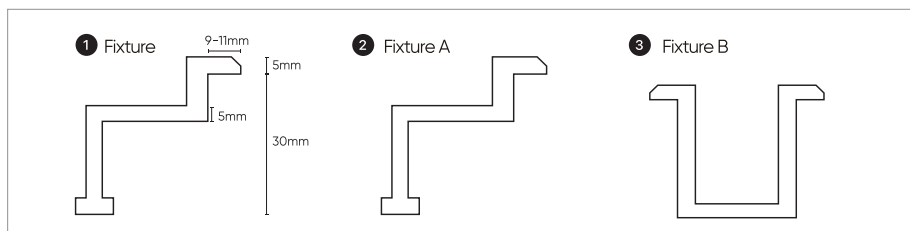
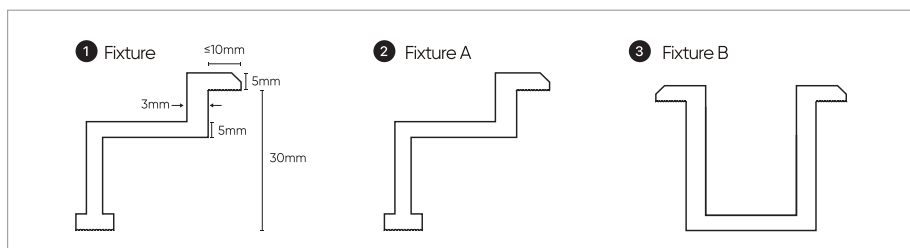
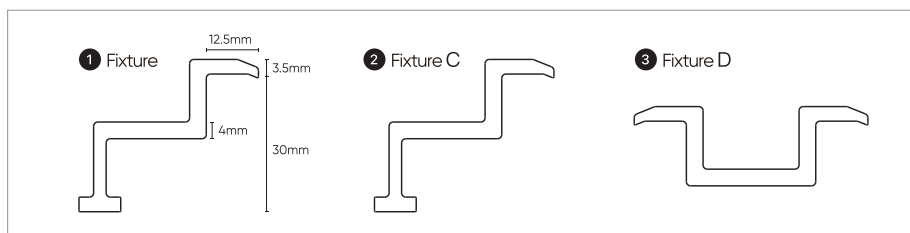

Figure 2: Fixture Diagram of regular PV Module
Figure 3: Fixture Diagram of high eff. PV Module
Figure 4: Fixture Diagram of hybrid frame PV Module
a) The regular module (with high eff. PV module, hybrid frame module) needs to be fixed to the photovoltaic bracket using a metal fixture (the fixture shown in Figure 2, Figure 3, Figure 4 is recommended) or other fixtures that have passed the industry tensile or environmental application test. The fixture is mainly used to secure the photovoltaic module. Therefore, when selecting the appropriate fixture, especially a custom fixture, ensure to conduct the load test on both sides to guarantee the safety and stability of the module.